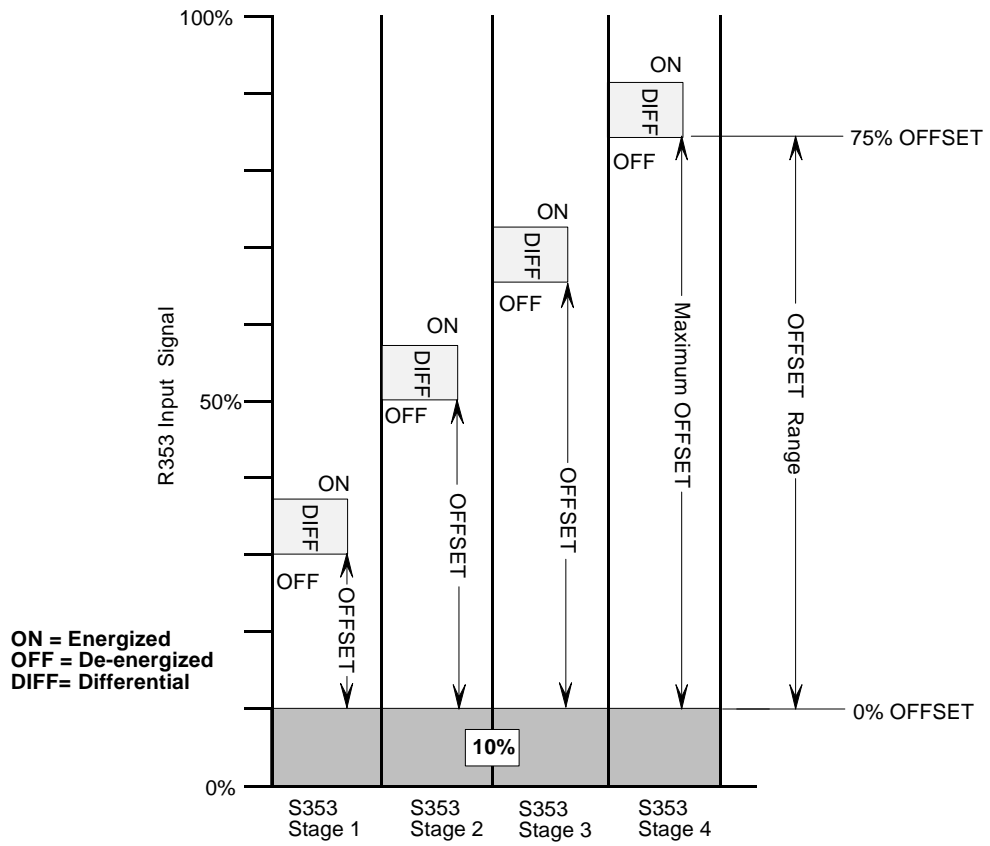

Figure 8: Four S353 Staging Modules Operating in Direct Acting Mode
8. Set the offset adjustment at the potentiometer located at the top of the S353 board marked OFFSET. The offset is the point at which an S353 module will de-energize and is adjustable from 0 to 75% (0 to 50% for mixed modes) of the R353 input range (Table 1 and Figures 8 and 9).